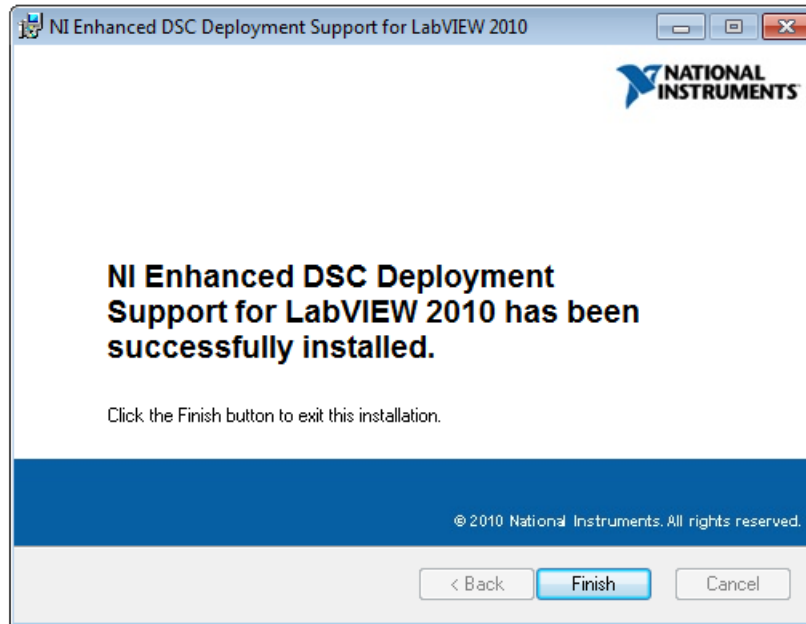

Figure 29. LabVIEW RTE Installation Complete
7. The *LabVIEW RTE Installation Complete* window (Figure 29) appears, indicating the completion of the LabVIEW 2010 RTE installation. Click the *Finish* button.